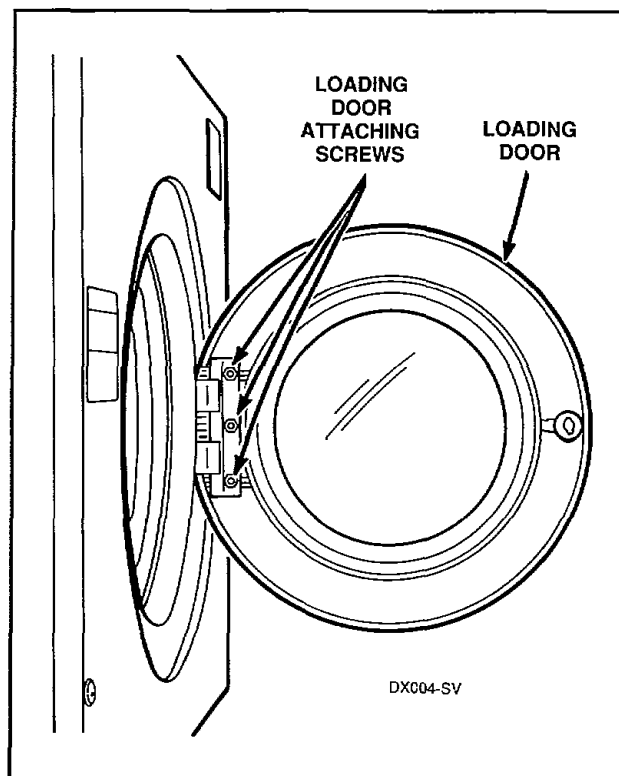

Figure 21
- h. While supporting loading door, remove three screws and lockwashers holding loading door to hinge retainer and remove door, *Figure 21*.